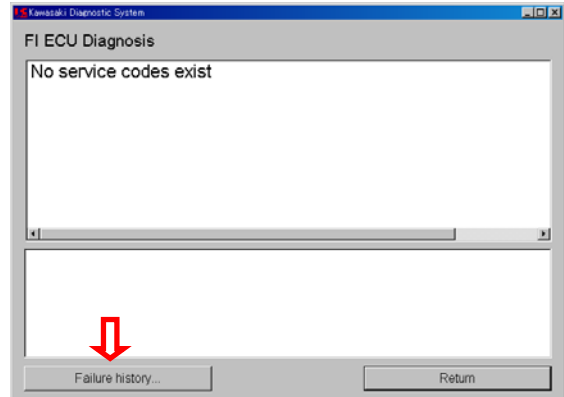

Fig. 6-15 FI ECU Diagnosis
- If no problems are found, Fig. 6-15 appears with *No message*.